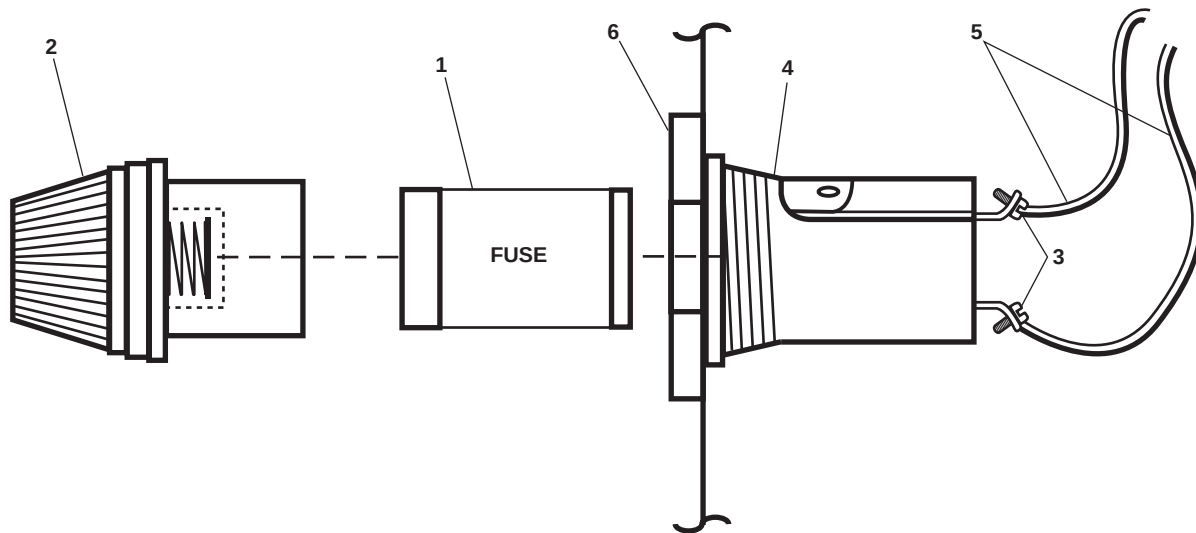

Figure 3. Control Panel Fuse Holder Assembly
3. Remove the fuse (figure 3, item 1) from the fuse holder (figure 3, item 2).
1. Install the fuse (figure 3, item 1) in the fuse holder (figure 3, item 2).
2. Install the fuse holder (figure 2, item 13) with the new fuse (figure 3, item 1) in the TLI control panel (figure 2, item 4) finger tight.
4. Use a multimeter to check for voltage at the terminals (figure 3, item 3) of the fuse holder assembly (figure 3, item 4). If voltage is present, ensure that the correct circuit breaker is set to OFF, locked out, and tagged out (FM 55-502). If no voltage is present, continue with the procedure.
5. Label and remove the wires (figure 3, item 5) from the terminals (figure 3, item 3) of the fuse holder assembly (figure 3, item 4).
6. Remove the retaining nut (figure 3, item 6), and remove the fuse holder assembly (figure 3, item 4) from the TLI control panel (figure 2, item 4).
1. Install the fuse holder assembly (figure 3, item 4) in the TLI control panel (figure 2, item 4) and secure it with the retaining nut (figure 3, item 6).
2. Install the wires (figure 3, item 5) to the fuse holder assembly (figure 3, item 4) using the labels from step 5 of Removal as a guide. Remove the labels.